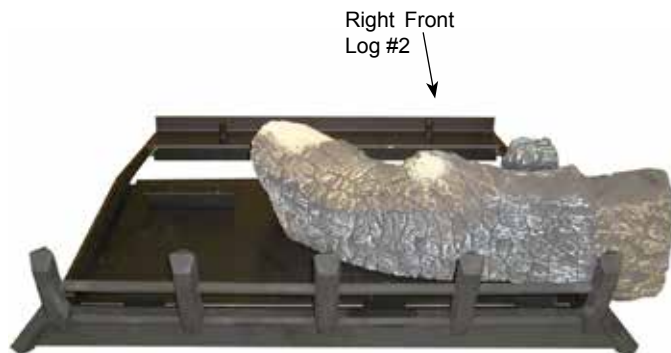

Figure 36.
2. Place front right log (#2) on right pin located on burner and right grate bar. Figure 36. After placing front right log, ensure log is fully upright and tilting towards the back of the burner.